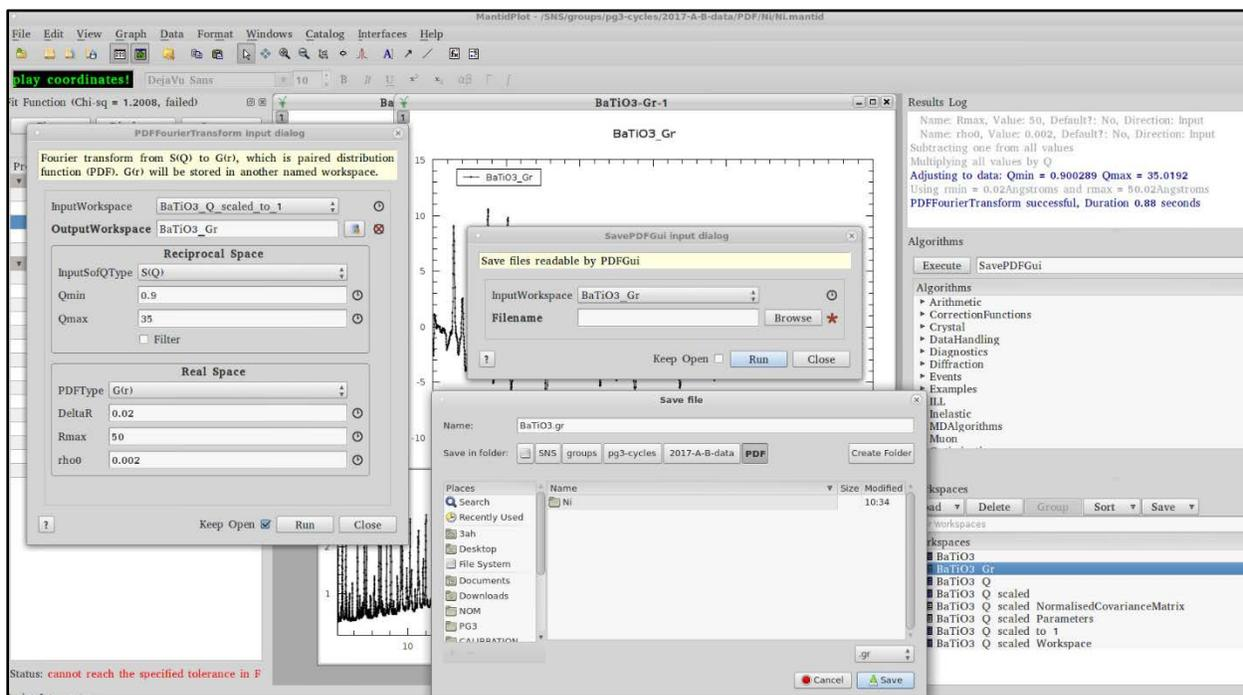

Figure 11. SavePDFGui dialog box.
9. Execute the “SavePDFGui” algorithm (Figure 11), which will generate a *.gr file formatted for the PDFGui program with the relevant header for neutron data.